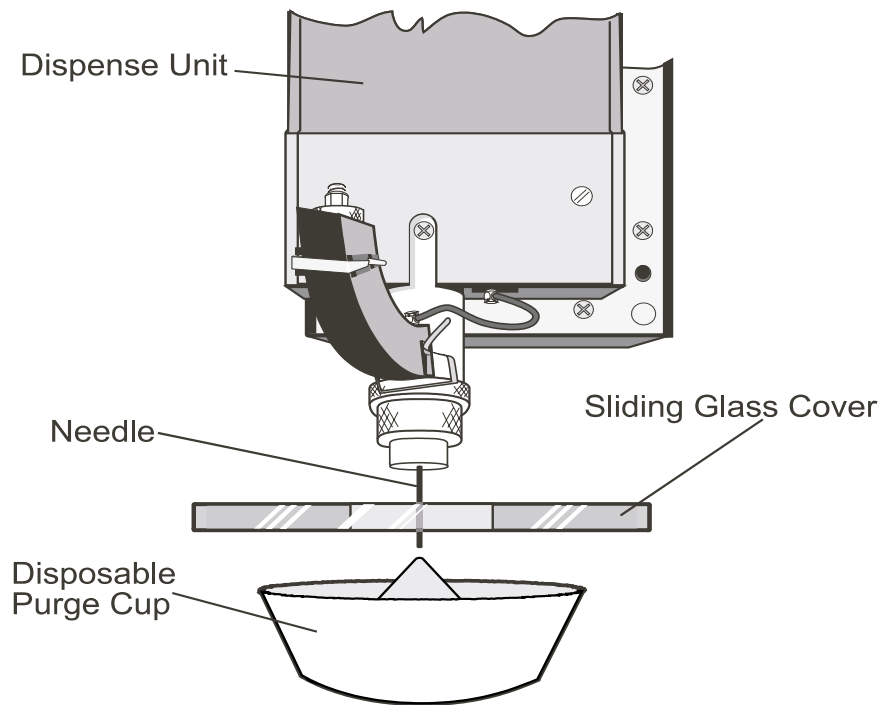

Figure 6-34
6. Select the **Trackball Z** button. Using the trackball, lower the needle of the dispense unit through the hole in the sliding glass cover until the needle is below the top surface of the sliding glass. See Figure 6-34.